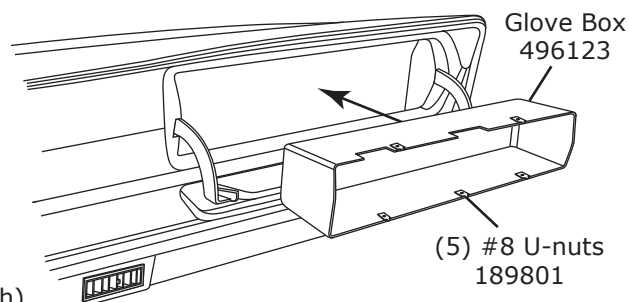

Figure 17
5. Install (5) #8 U-nuts onto glove box, and install glove box in glove box compartment (See Figure 17, below).